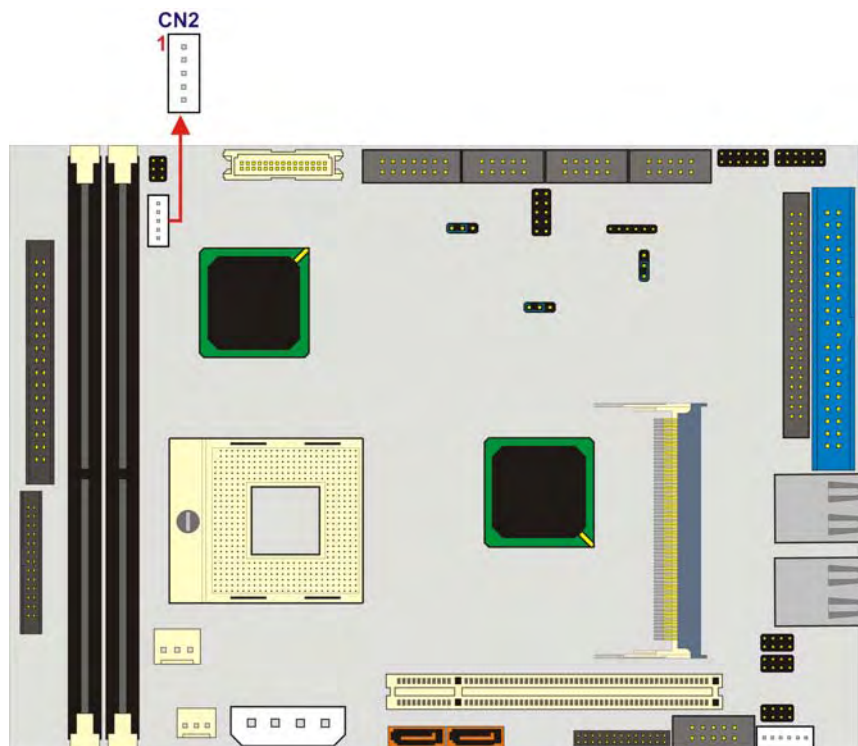

Figure 3-14: Inverter Connector Locations
- CN Location:** See **Figure 3-14**